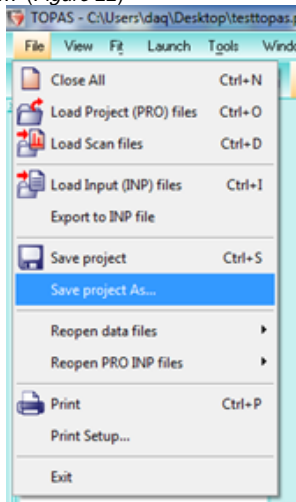

Figure 22. Save Project Pathway
- Select 'File' on the Menu Bar and go to 'Save project As...' (*Figure 22*)